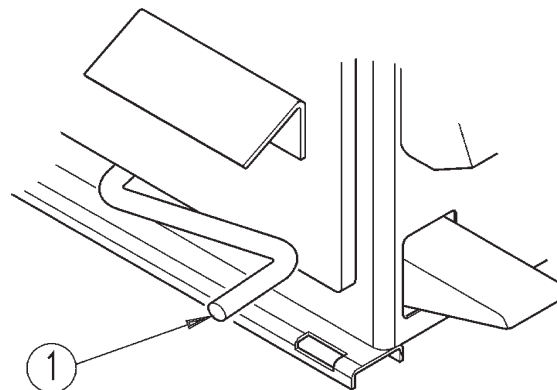

Figure 3.0-5
- F Press bead seater/inflator pedal on left side of the machine half way down (#1 Fig. 3.0-5): air will come from inflation hose end only.